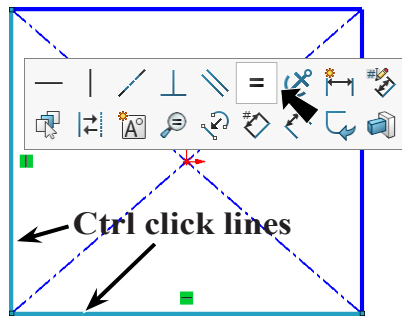

Fig. 3
Step 6. **Ctrl click two adjacent sides of the rectangle** and click **Make Equal** on the context toolbar, **Fig. 3**.
Step 7. Click **Smart Dimension** (S) on the Sketch toolbar.